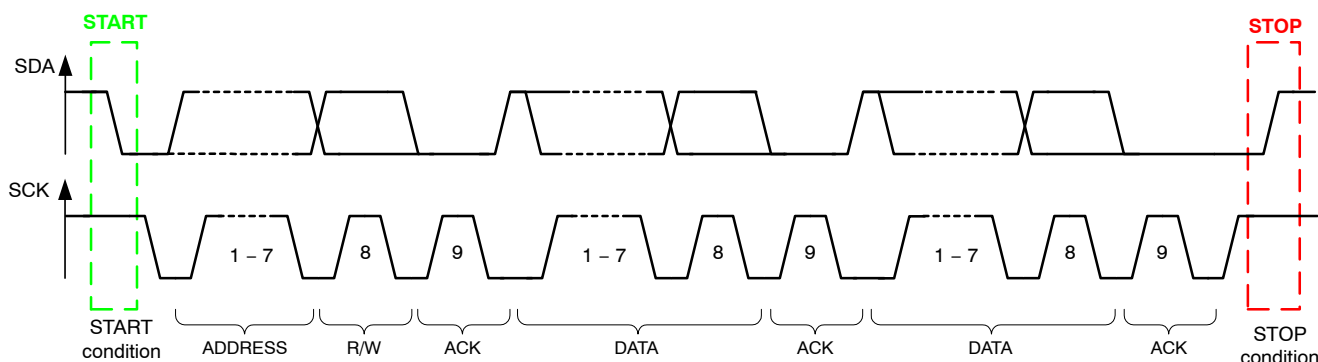

Figure 27. A Complete Data Transfer
Data transfers follow the format shown in Figure 27. After the START condition (S), a slave address is sent. This